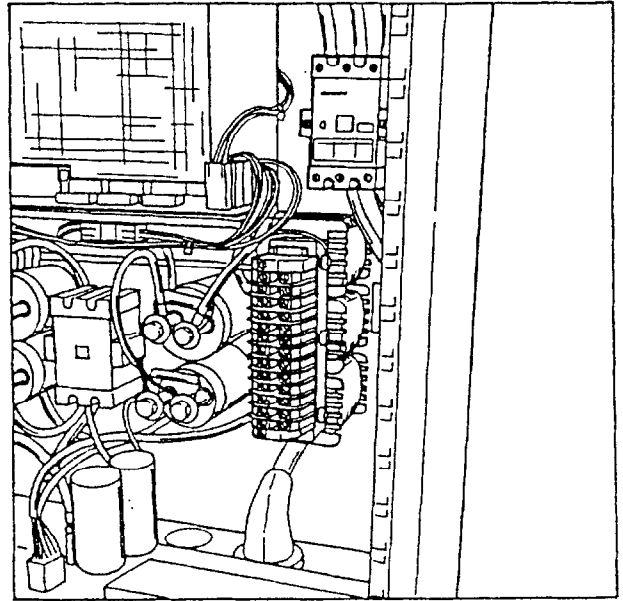

Fig. 5
- Subsequent installation must be performed as shown in Fig.5. Connect according to wiring diagram X2075-11.